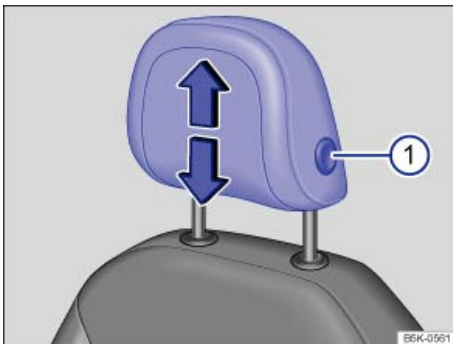
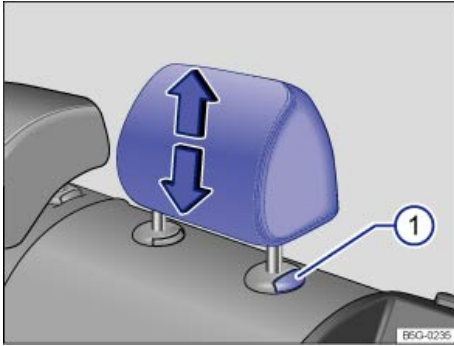

Fig. 39 Adjusting the front head restraints.
Fig. 40 Adjusting the rear head restraints.
- Pull the head restraint up in the direction of the arrow, or push it down while pressing the button ⇒ fig. 39 \(1\) or ⇒ fig. 40 \(1\) ⇒ ⚠️.